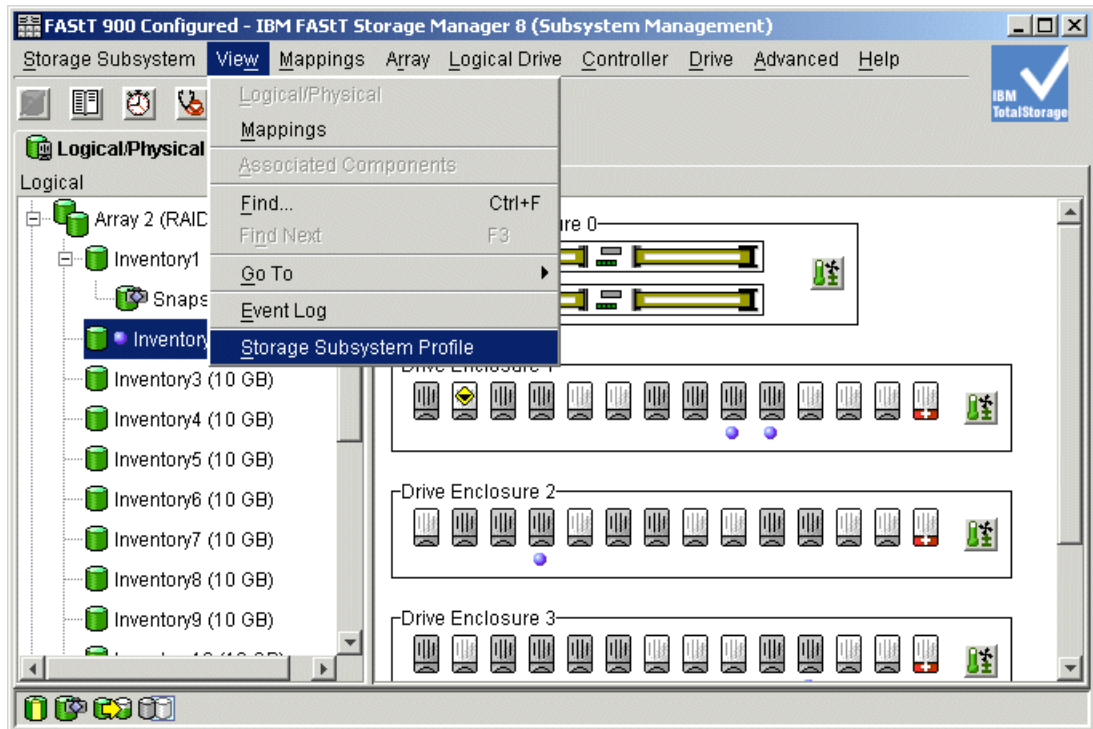

Figure 9-26 Launching the Storage Subsystem Profile
2. Select either the **View -> Storage Subsystem Profile** pull-down menu option, or **View Profile** from the right-mouse pop-up menu. See Figure 9-26 on page 305.